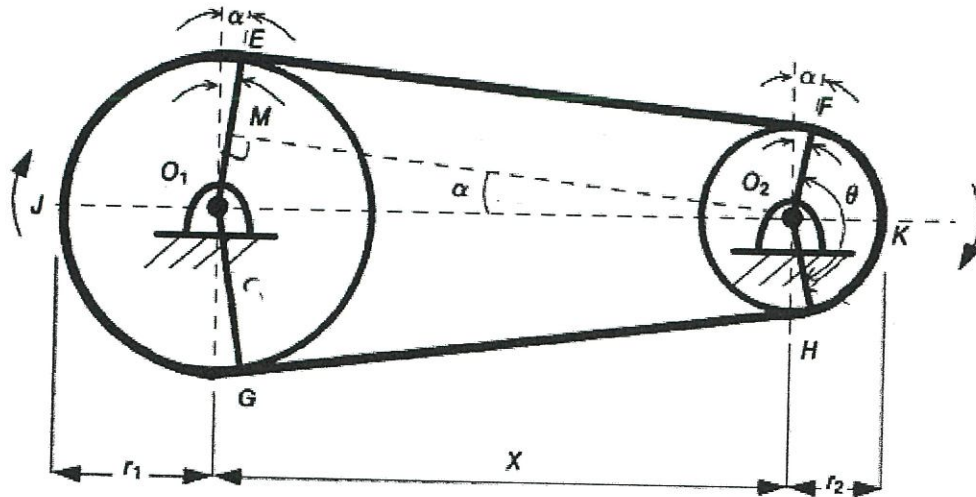

Figure Q5
**Q5** Figure Q5 shows a flat type of pulley with diameter of 200 mm rotating at speed of 1750 rpm drives another pulley with diameter of 800 mm using open belt type arrangement. The distance between the shafts centre is 1 metre and the mass of belt material is 0.5 kg/m. The coefficient of friction between the belt and pulley's contact surface is 0.3. When in operation, the belt tension at the slack side is 300 N.